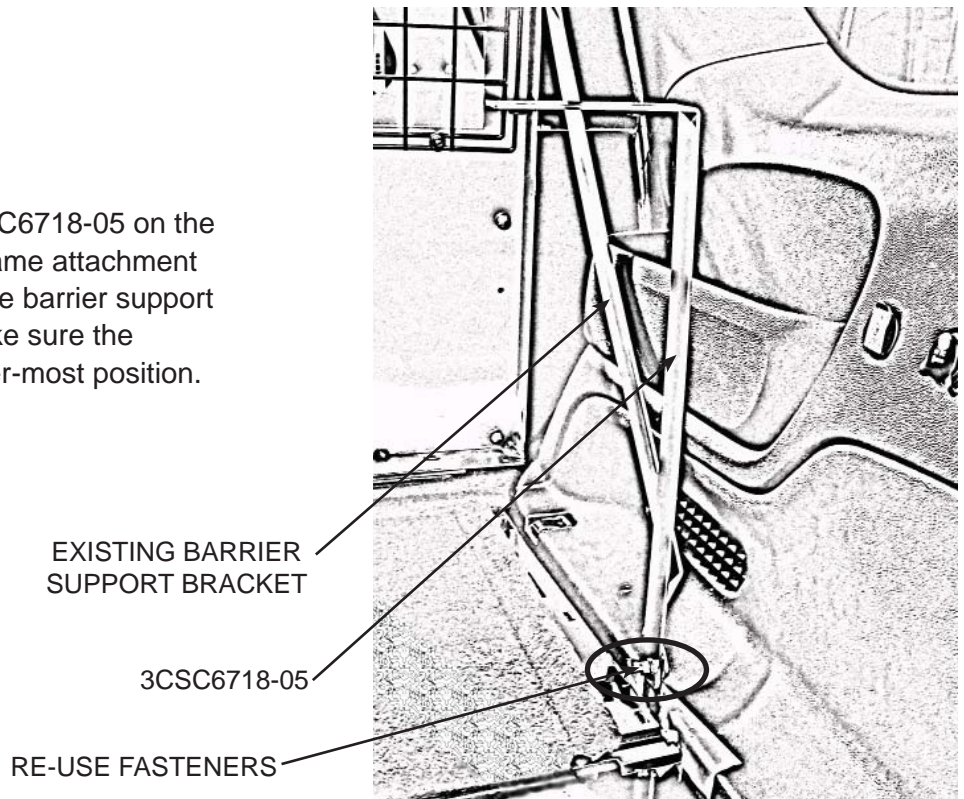

Fig. 1
A. Loosely attach bracket 3CSC6718-05 on the passenger side using the same attachment location and hardware as the barrier support bracket shown in Fig.1. Make sure the bracket is placed in the inner-most position.